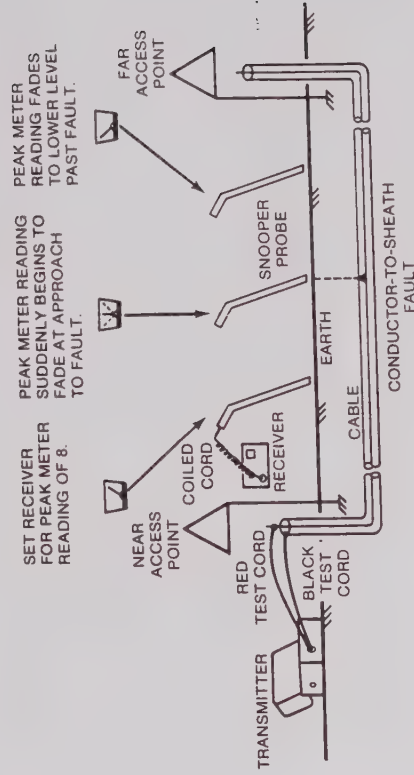

Figure 5-3.
4. Plug the jack end of the red/black test cord into the RED/BLACK TEST CORD jack receptacle on the transmitter (see Figure 5-3).
The type of fault found in aerial coaxial cable is the conductor-to-sheath fault. You will use the transmitter hookup shown in Figure 5-3. For detailed instructions on how to locate aerial cable faults, refer to Section 3, page 70, HOW TO LOCATE FAULTS IN AERIAL TELEPHONE CABLE.